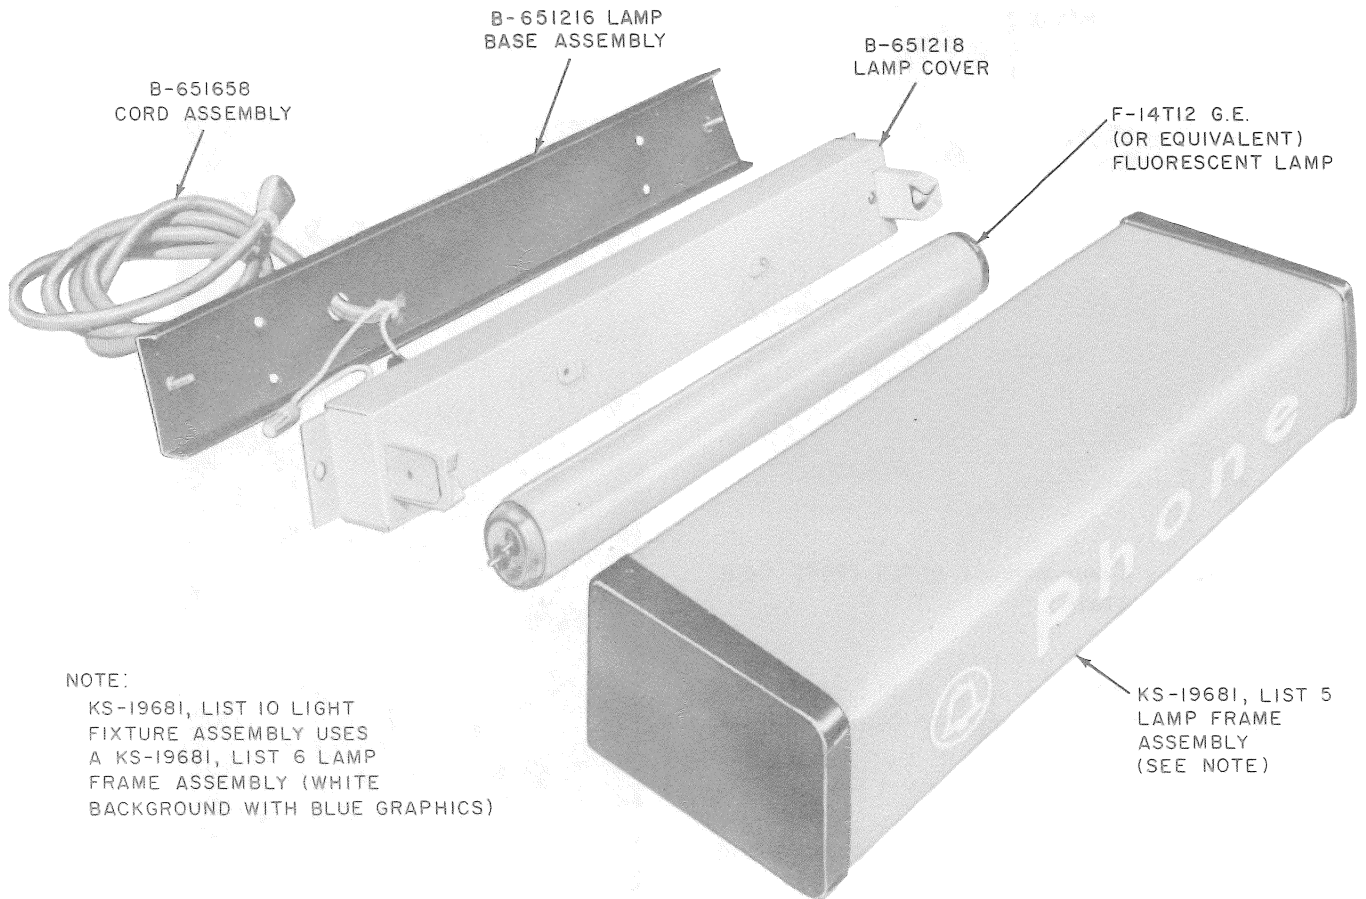

Fig. 6—KS-19681, List 9 Light Fixture Assembly
- (1) Remove sign as in 4.05 (1) and (2).
- (2) Disassemble the KS-19681 sign (Fig. 6) to make wiring accessible. Refer to 4.06 (2), (4), and (5).